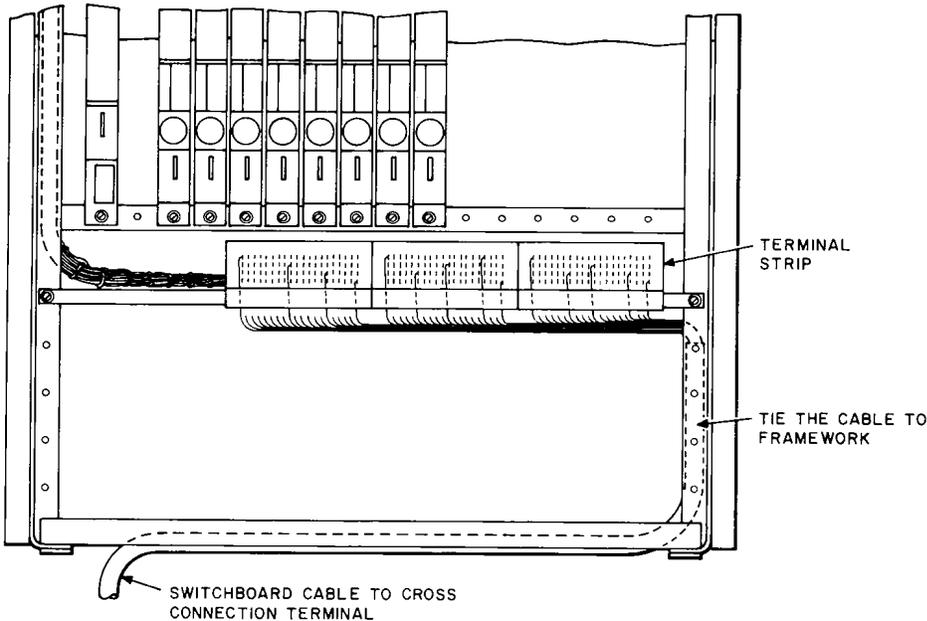

Fig. 13—Arrangement for Terminating Switchboard Cable when Cross-Connecting Terminal is Provided—Rear View
3.26 *Terminate the cable from the cross-connecting terminal* on the terminal strips in the bottom rear of the PBX as shown in Table E and Fig. 13, 14, and in accordance with SD-66520-01.